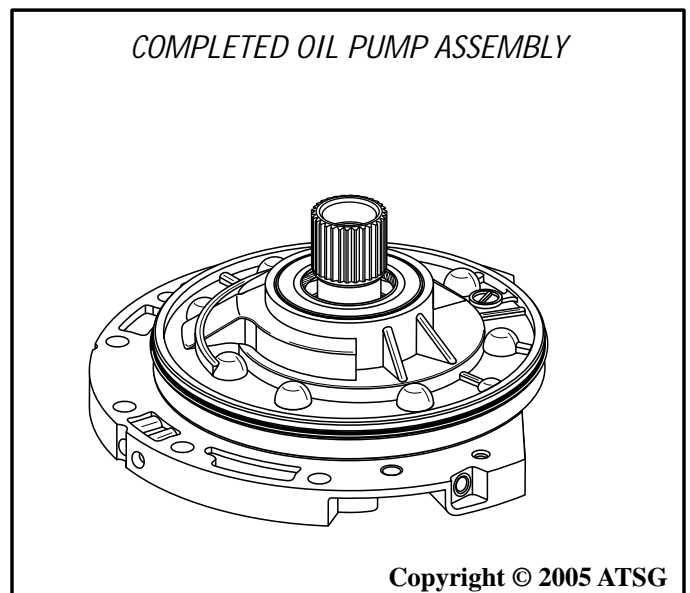

Figure 139
16. Set the completed oil pump assembly aside for the final assembly process (See Figure 139).